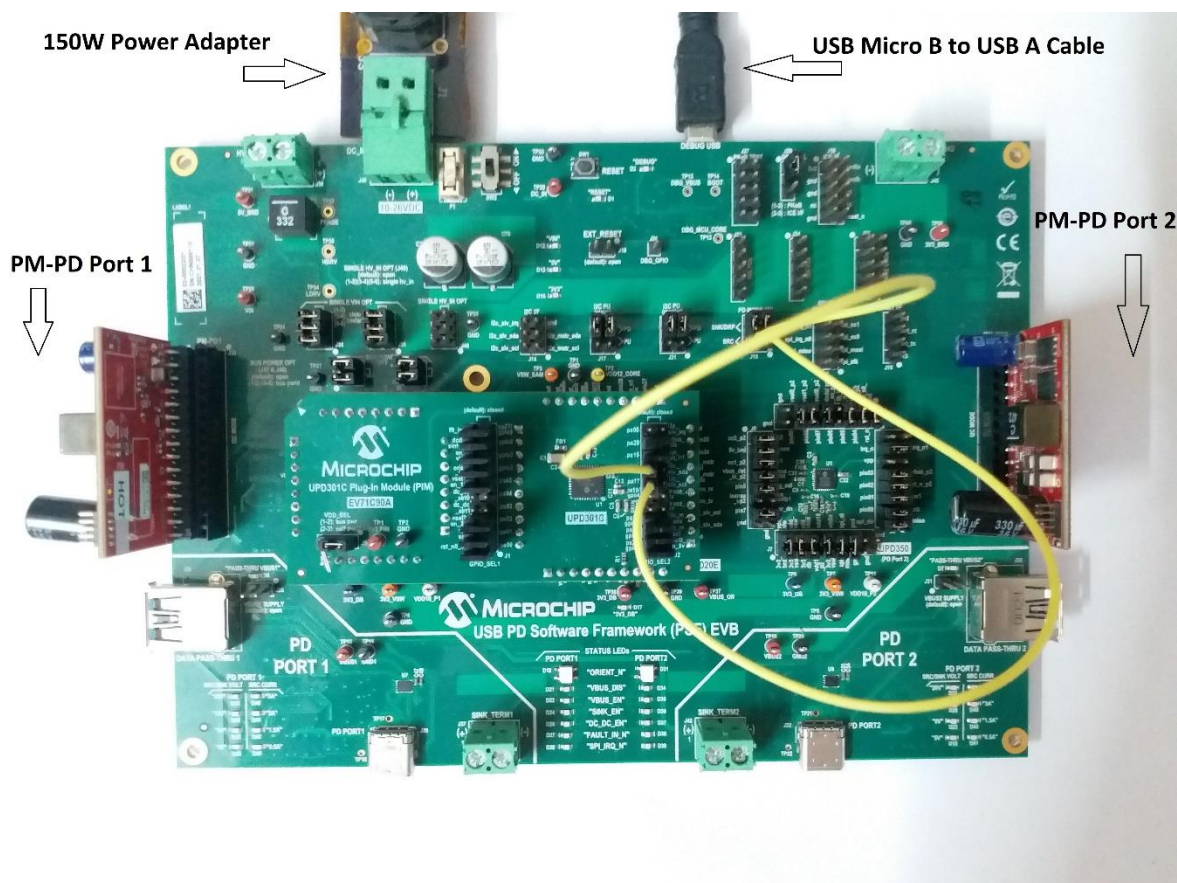

Figure 5.6 EVB-PSF Full Setup
8. The whole connection looks as shown below in the figure 5.6.